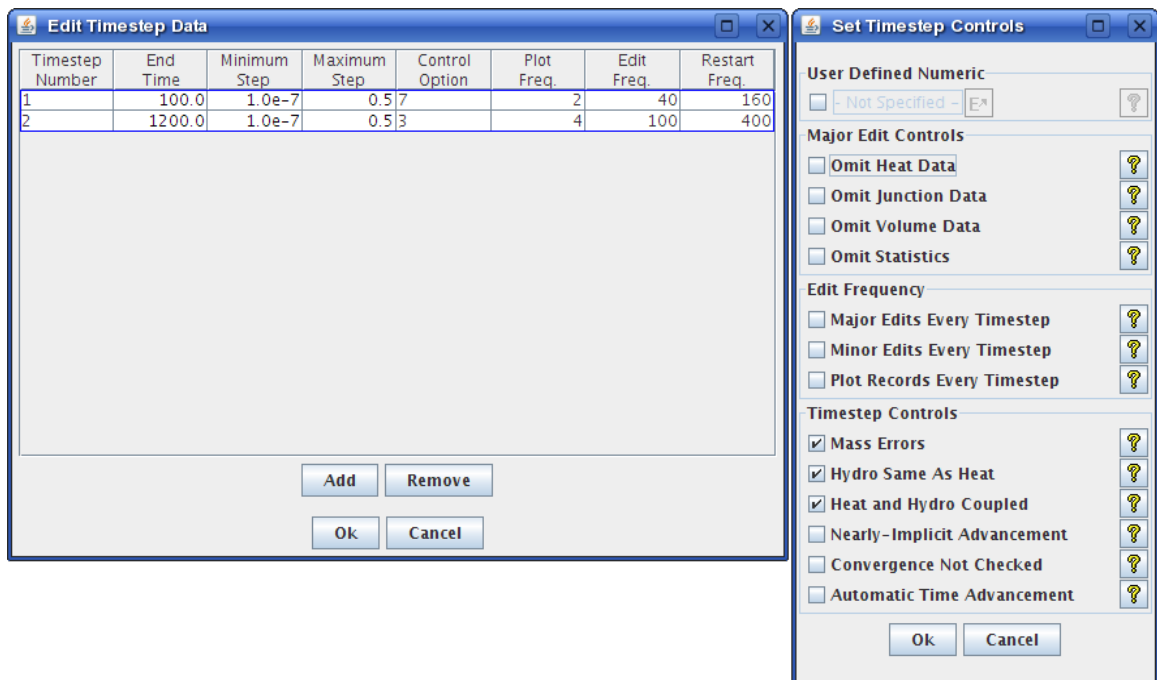

Figure 3.1. RELAP Plug-in Timestep Editor
- Timestep Data - This is the data used to control the problem timestep information. The Timestep editor for the information is shown in Figure 3.1, “RELAP Plug-in Timestep Editor”. The editor allows an analyst to add and remove timesteps and specify the specific timestep options using a tabular interface. The composite *Control Option* value uses a pop-up editor allows the specific control option flags to be selected from a list of check-boxes. This pop-up editor also allows the specification of a user-defined numeric to define the *Control Option*.